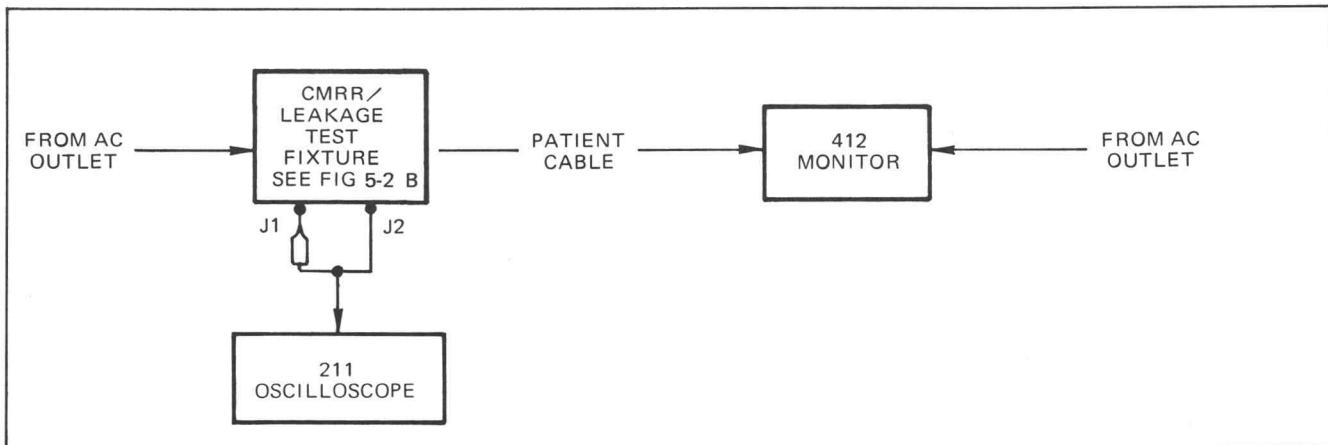

Fig. 5-12. Recommended method to check leakage current.
**RECOMMENDED METHOD.** Set up the monitor and the test fixtures as shown in Fig. 5-12.